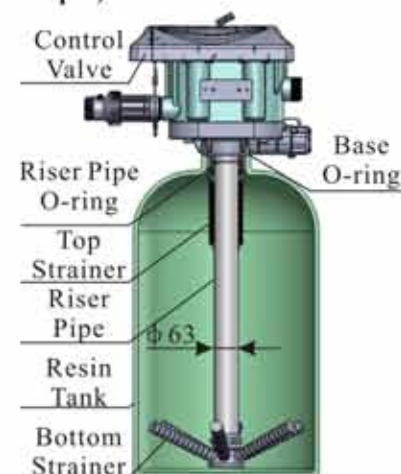

Figure 1-1
a. As the Figure 1-1 shows, select the riser pipe with 63mm OD, glue the riser pipe to the bottom strainer and put it into the mineral tank, cut off the exceeding tube out of tank top opening. Plug the riser tube in case of mineral entering.